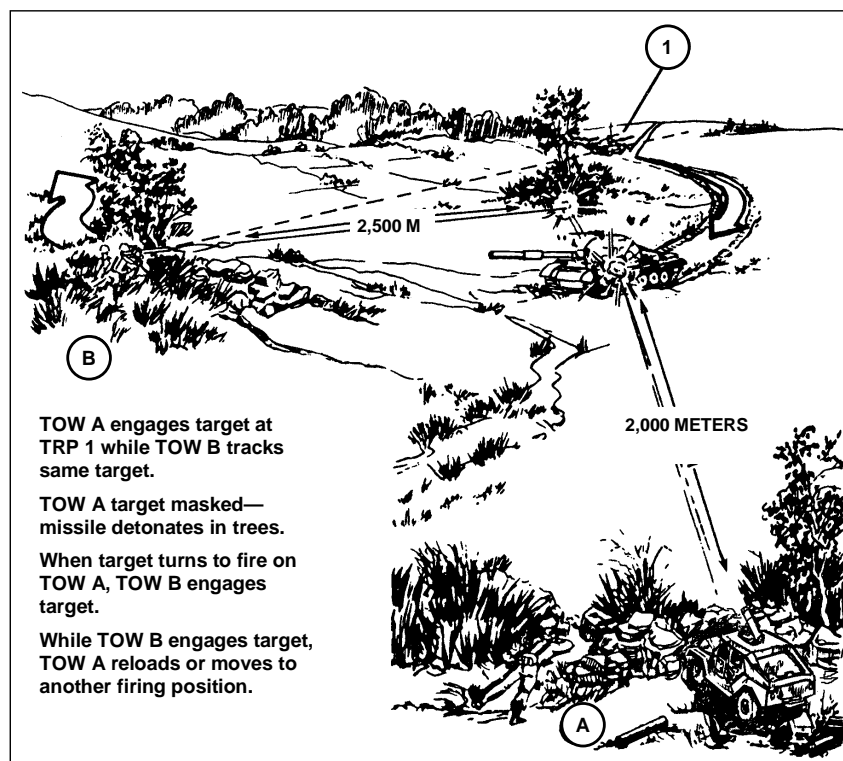

Figure 1. Employ TOWs in pairs.
- d. Use TOWs in pairs (by section). To be sure that a sector of fire has continuous antiarmor coverage, use TOWs in pairs with overlapping sectors of fire. Used this way, they can support each other. One system can fire while the other is reloading or moving to an alternate position. Use TOWs separately only when that is the only way to cover the armor approaches or to overwatch the attacking company's zone (Figure 1).